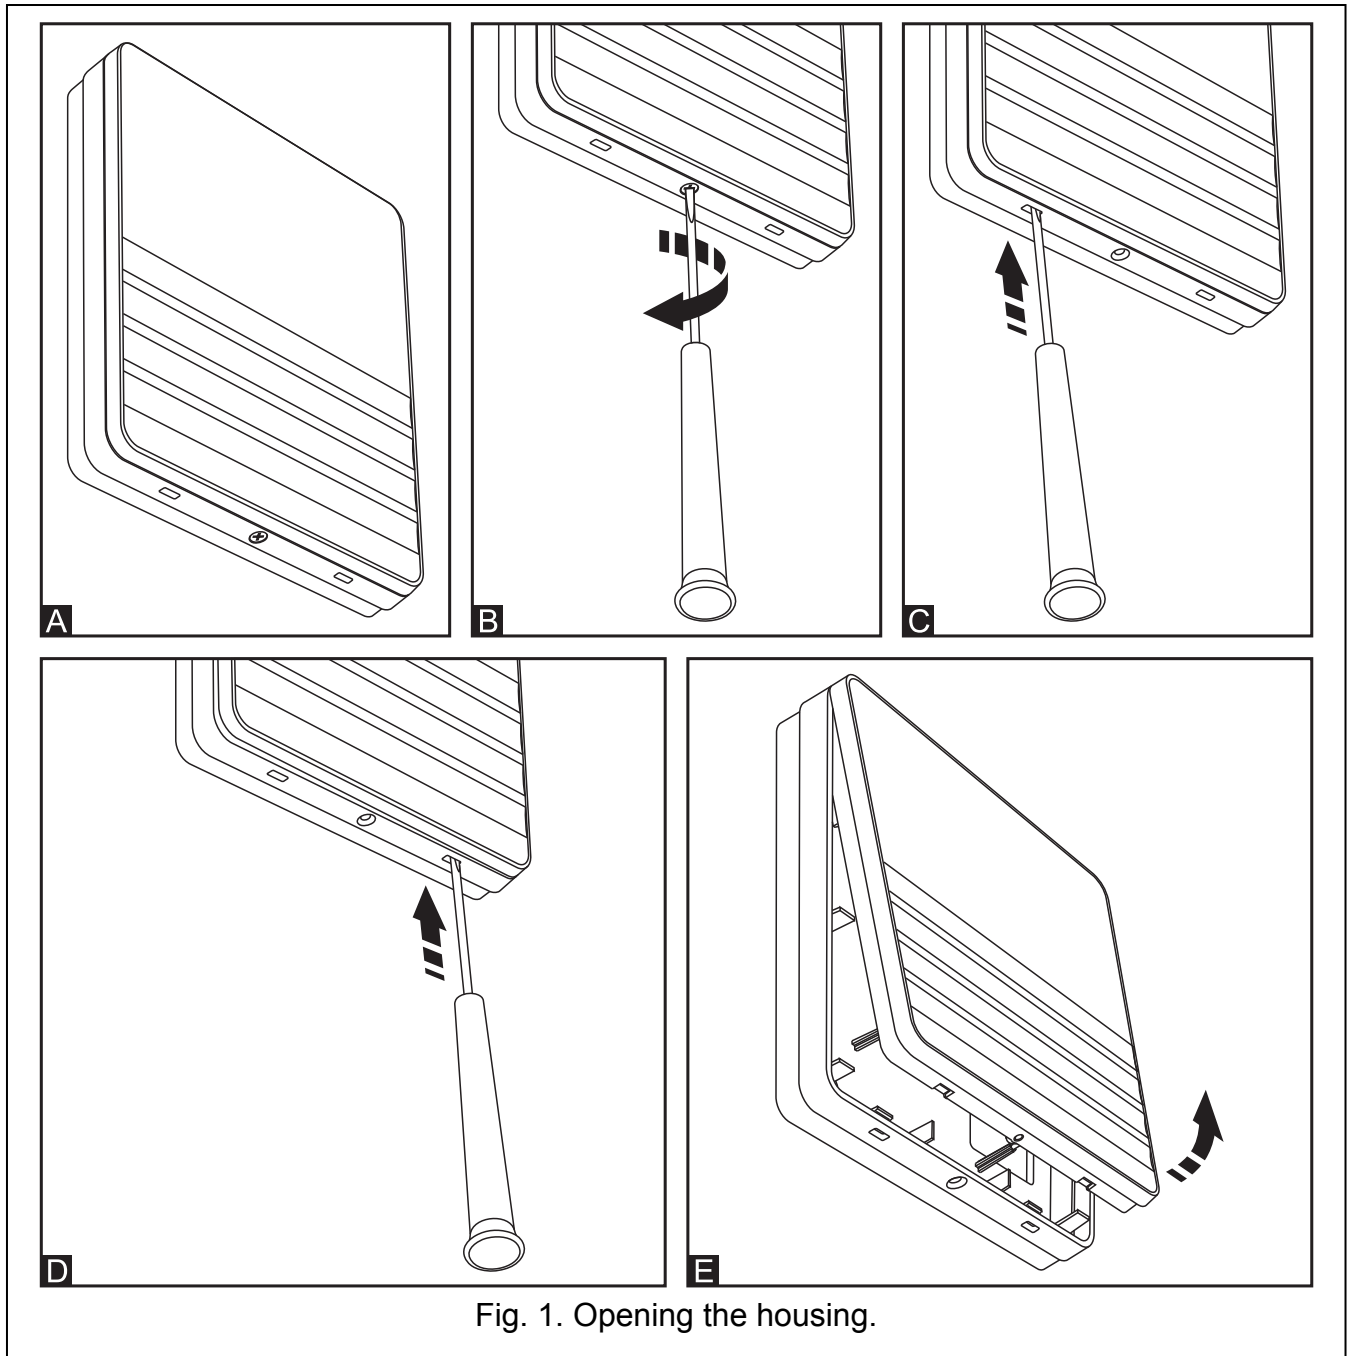

Fig. 1. Opening the housing.
1. Open the keypad housing (see Fig. 1).